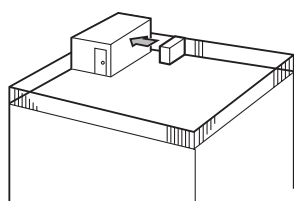

Fig. 4-3
- Face the air outlet towards the nearest available wall about 50 cm away from the wall. (Fig. 4-3)